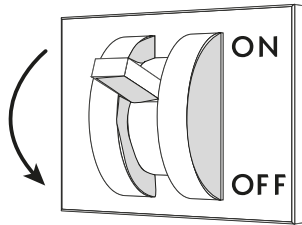

Fig. 18
- Disconnect the power supply to the cabinet using the wall-mounted main switch-disconnector ("Fig. 18").